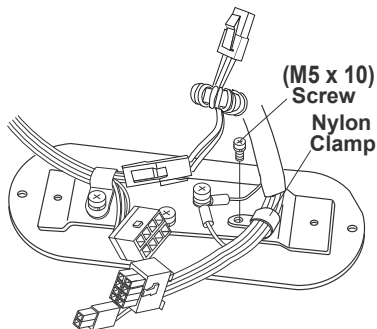
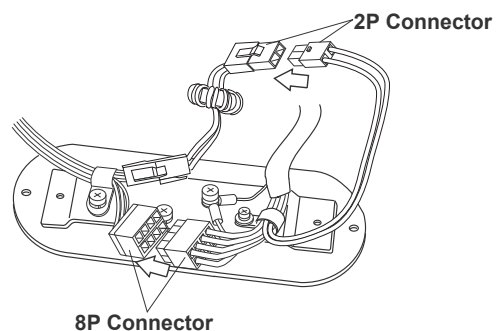

Fig.3-13B Attaching Balance Arm Cable on Bottom Cover
Fig.3-13C Connection of Connectors on Bottom Cover
5. Secure the wires from the balance arm to the bottom cover with the nylon cable clamp to prevent damage from twisting. (Fig.3-13B) Then connect the 2P and 8P connectors. (Fig.3-13C)